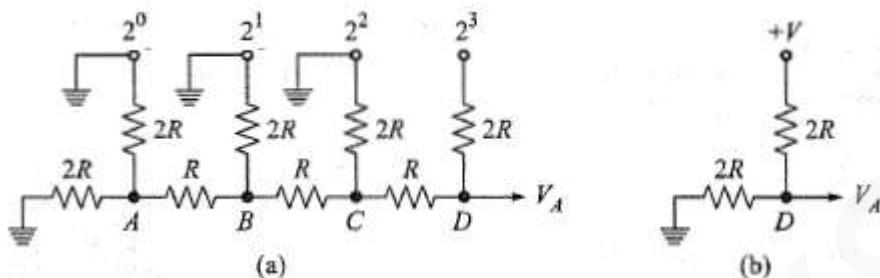

Figure 12.8: (a) Binary ladder with a digital i/p of 1000
- Consider, binary ladder network for a four-bit DAC (Figure 12.8).